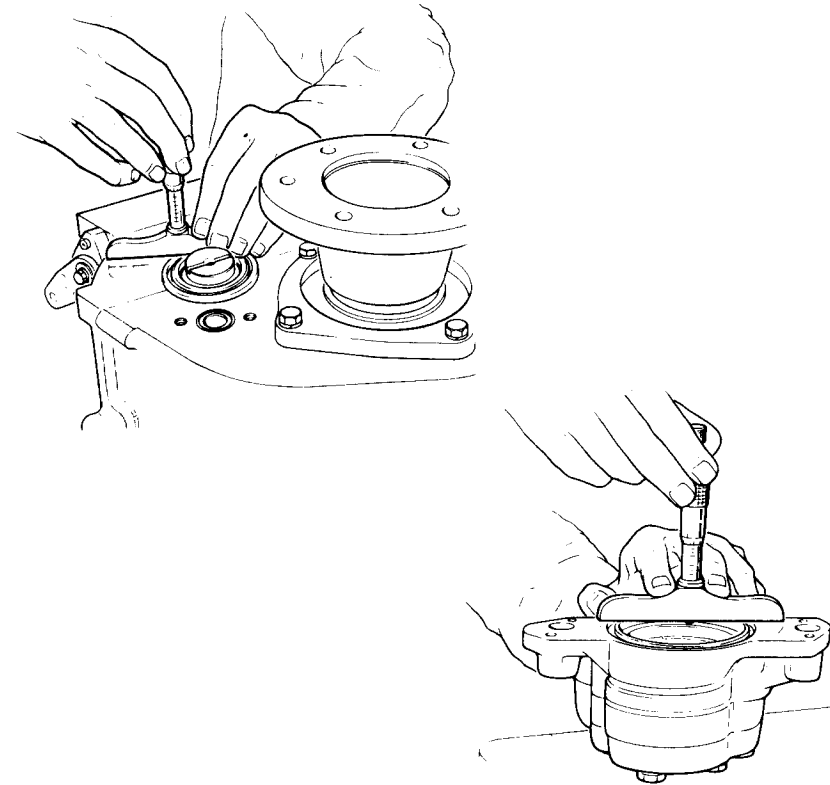

Fig. 14. shimming procedure
- (i) press the bearing outer cone firmly into position and measure between the face of the gearcase and the top of the bearing outer as shown in fig. 14.